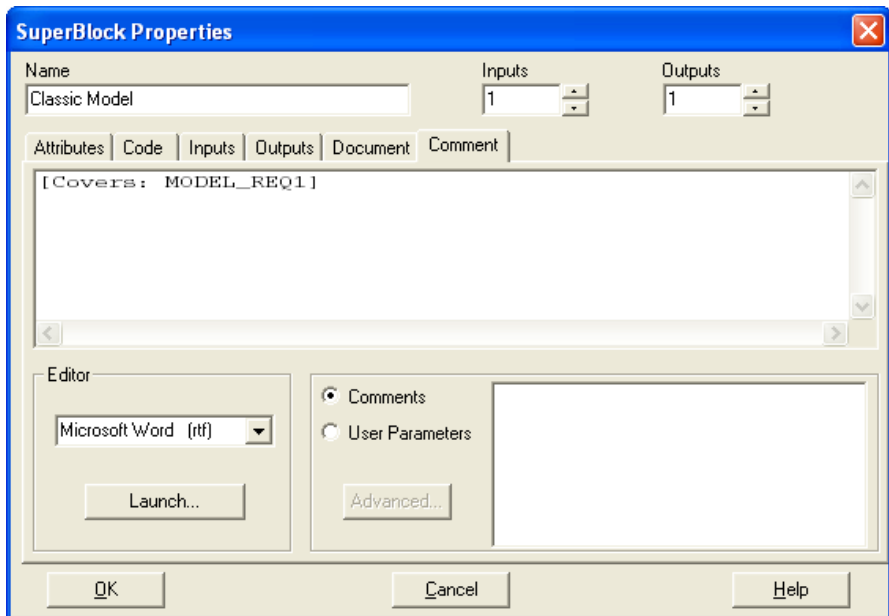

Figure 8-2. SuperBlock Properties Dialog Box
6. Paste the text from the clipboard using **<Ctrl-V>** in the textbox control. MATRIXx adds [Covers: MODEL_REQ1] to the comment as shown in Figure 8-2.